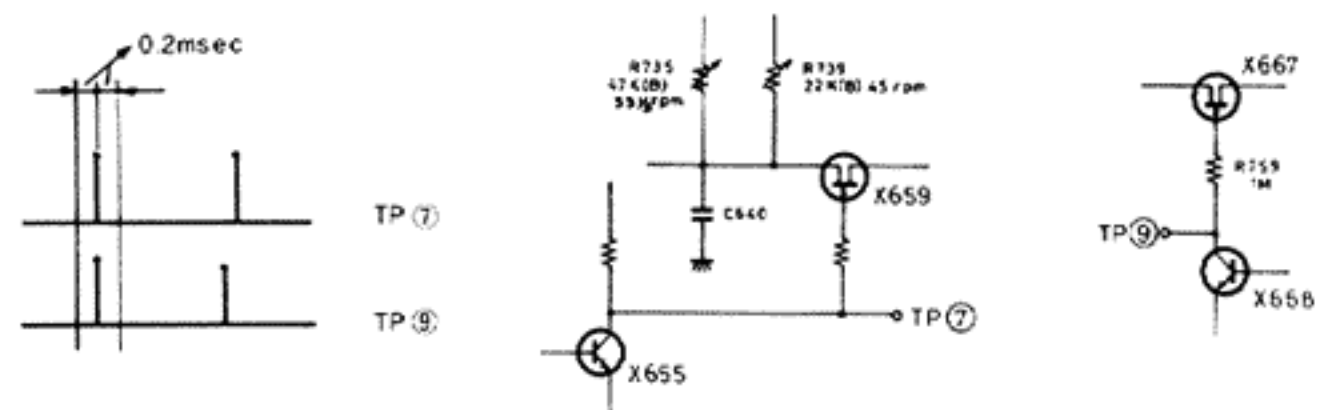

Fig. 49
- Remove the 670-ohm resistor and 200µF capacitor from TP ⑧.
- In this state, adjust coarse adjusters VR735 and VR739 to obtain rotation of approximately 33-1/3 and 45 rpm. Connect the probes of a dual beam/trace oscilloscope (2 msec/div) to TP ⑦ and TP ⑨ then externally trigger the scope with signals from TP ⑨. Staying within the -6Hz (min) quartz lock frequency range, adjust VR735 and VR739 until the deviation of each pulse at TP ⑦ is within ± 0.2 msec as shown in Figure 49.